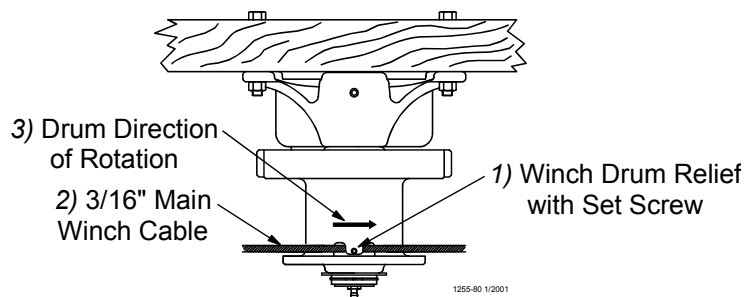

Figure 15. Attaching the Cable to the Power Winch
4. Route the cable through the Winch Drum Relief located near the bottom of the drum. Tighten the set screw to anchor the cable to the drum. See **Figure 15**.